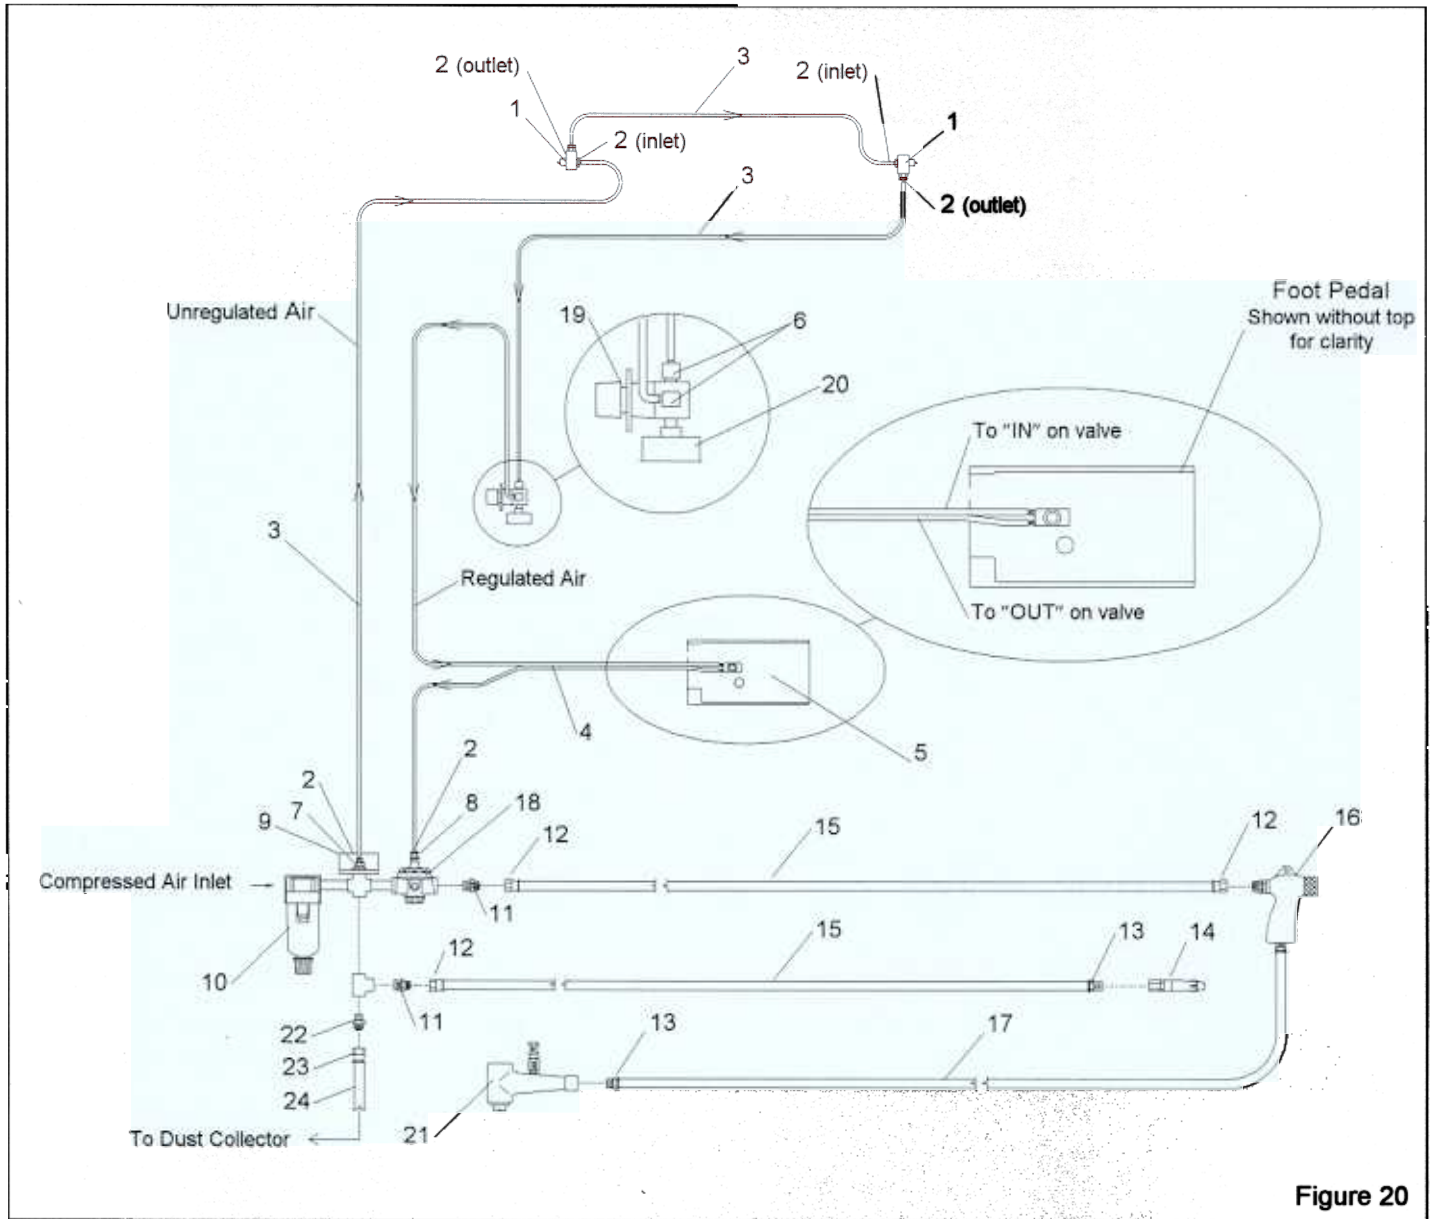

Figure 20
9.7 Cabinet Plumbing Assembly, Figure 20